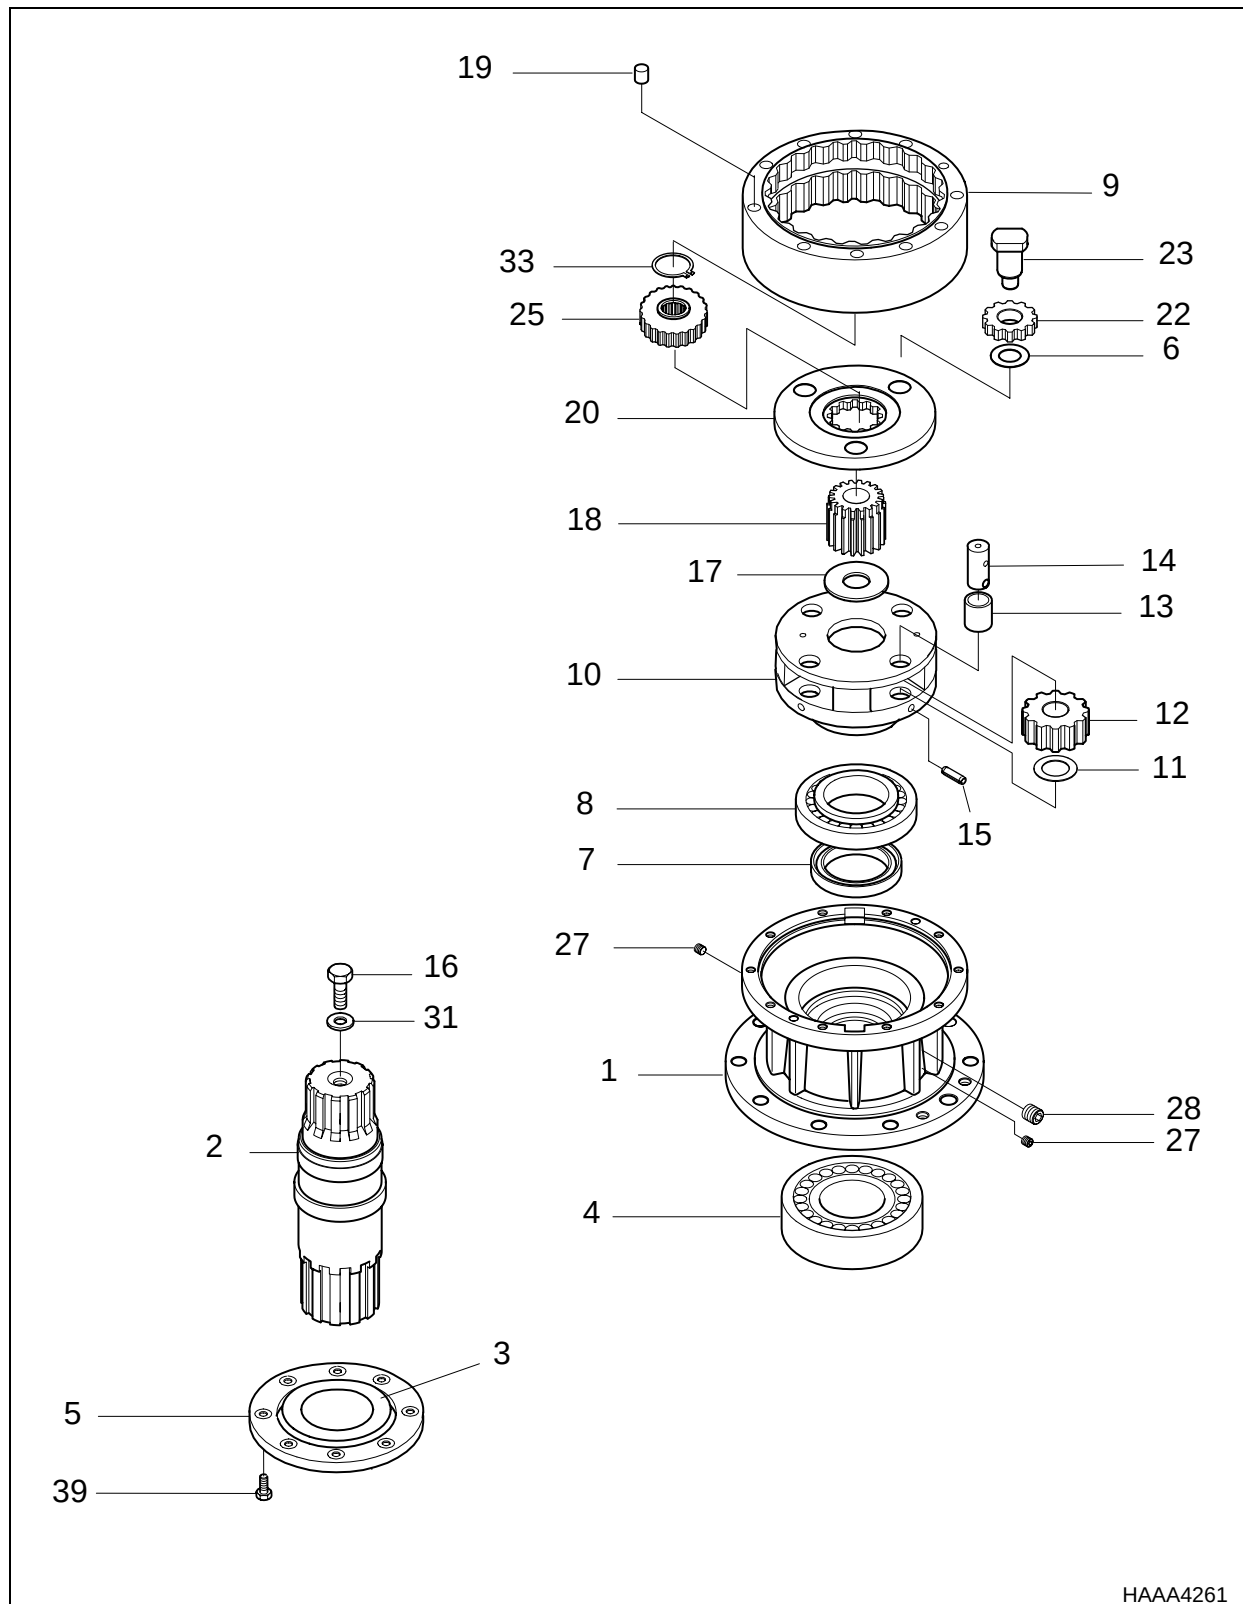
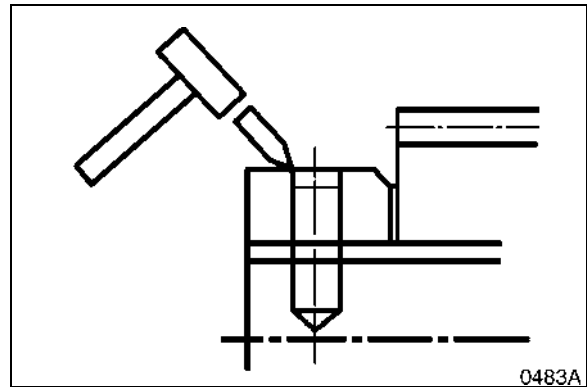

Figure 13
Figure 14
- D. As shown in Figure 14, use a punch to stake spring pins (15, Figure 13) (inserted in the previous step) into place.
10. Position No. 2 carrier (10, Figure 13) on drive shaft (2).
11. Secure No. 2 carrier (10, Figure 13) to drive shaft (2) with No. 3 thrust washer (17), new double tab washer (31) and bolt (16).
12. Position No. 1 ring gear (9, Figure 13) on casing (1).
- NOTE:** Install knock pin (19, Figure 13) in No. 1 ring gear (9) if replacement was necessary.
13. Attach No. 1 thrust washer (6, Figure 13), No. 1 planet gear (22) and new pin (23) to No. 1 carrier (20),. Repeat procedure for remaining planetary gear assemblies.
14. Install No. 2 sun gear (18, Figure 13) on top of No. 3 thrust washer (17).
15. Position No. 1 carrier (20, Figure 13) into No. 1 ring gear (9) and engage No.2 sun gear (18).
16. Set No. 1 sun gear (25, Figure 13) into No. 1 carrier (20) and on end of No. 2 sun gear (18).
17. Install snap ring (1, Figure 13) on swing motor shaft, if replacement was necessary.